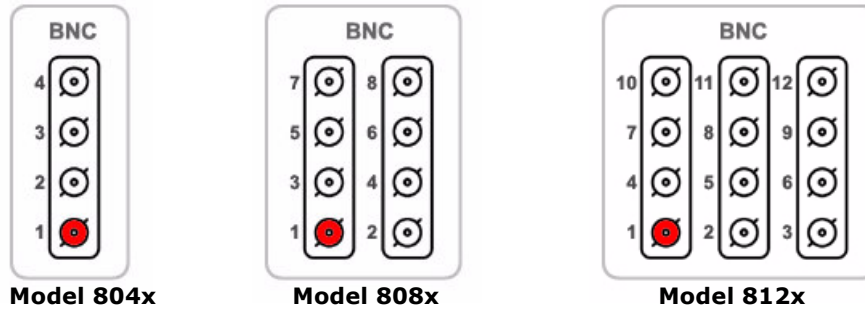

Figure 3. Video Inputs Diagram for Tempest 8000 Series
- **Video Inputs** - The Video Inputs panel consists of BNC connectors for 4/8/12 (See Figure 3) video inputs from cameras (NTSC/PAL) or other sources (CCTV cameras, tuners, VCRs, etc.).